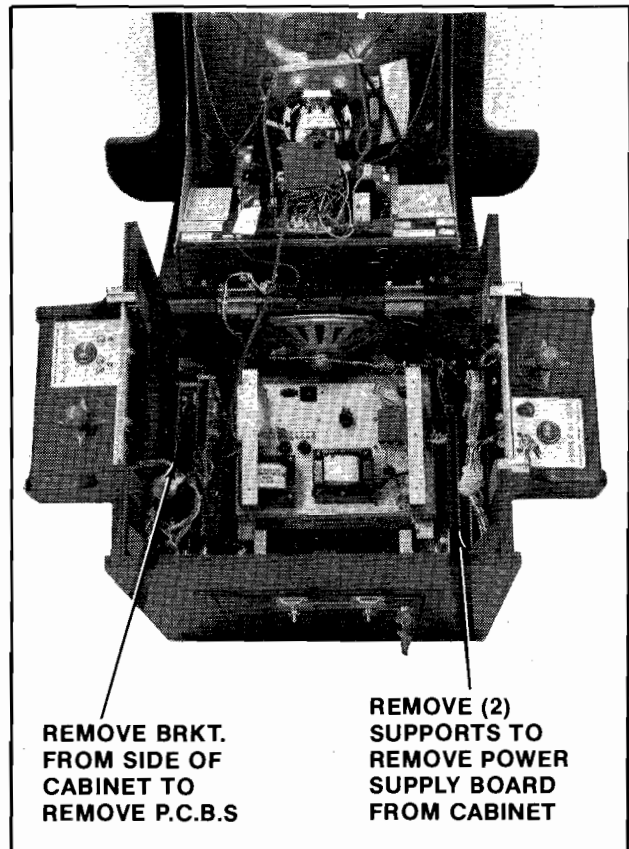

Figure 4-11 Replacing P.C.B.s — Cocktail
### 2. COCKTAIL TABLE MODEL: See Figure 4-11.
- To remove the Main and Auxiliary Game Logic Boards. See Figure 4-11.
Remove the P.C.B. clamps indicated in Figure 4-11 and slide the Main Game Logic Board out of the cabinet.
**CAREFULLY** pop the Auxiliary Game Logic Board off its four snap-in mounting posts and lift it out of the cabinet. See Figure 4-11.